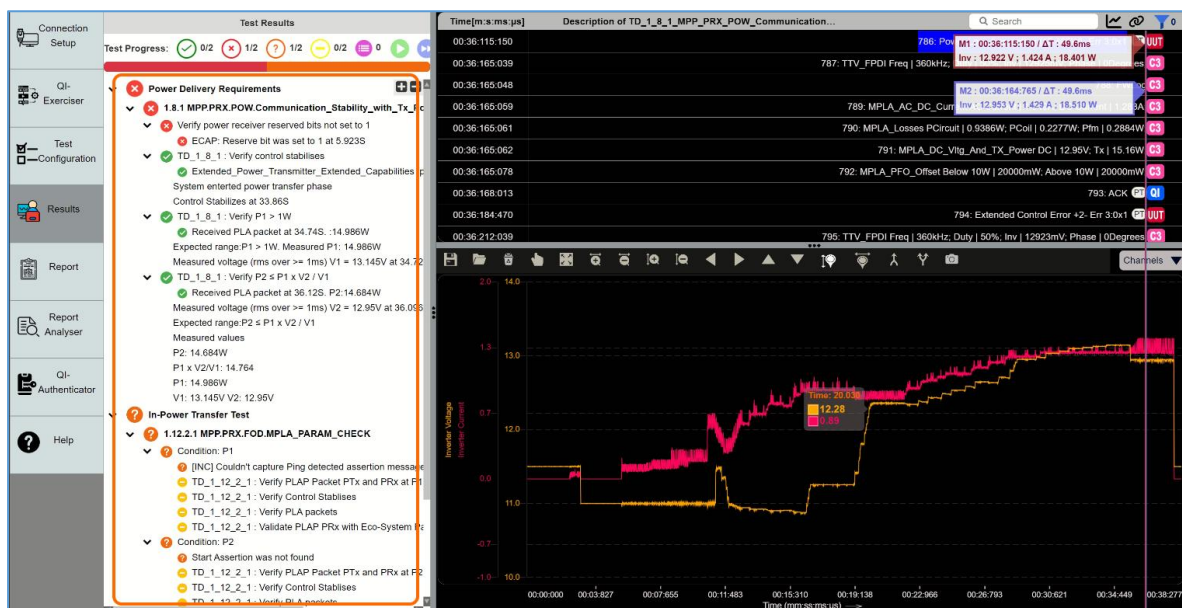

FIGURE 8.40: UPLOAD PROJECT— #4
- Click on the **Upload** button and the selected project file will be loaded as shown in the Figure 8.40 example below. The user can now proceed to access/configure the project.